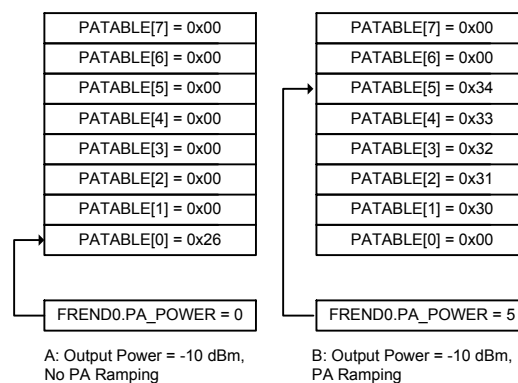

Figure 24: PA Ramping
Assume working in the 433 MHz and using FSK. The desired output power is -10 dBm. Figure 24 shows how the PATABLE should look like in the two cases where no ramping is used (A) and when PA ramping is being implemented (B). In case A, the PATABLE value is taken from Table 30, while in case B, the values are taken from Table 32.